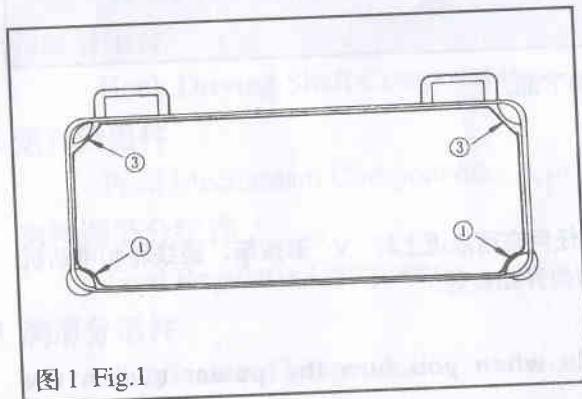
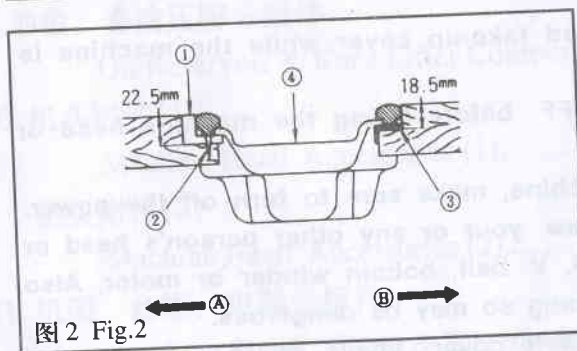
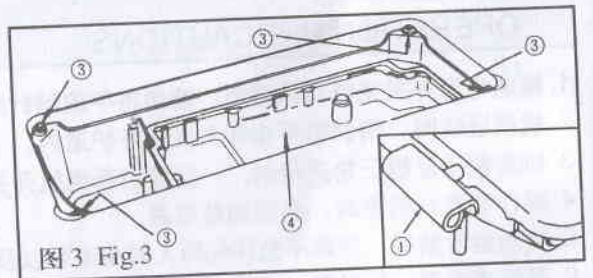
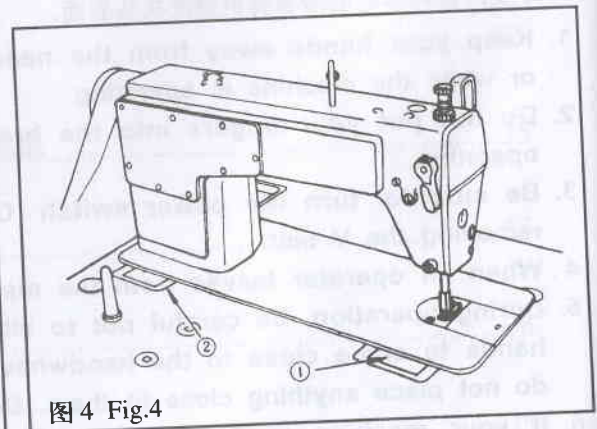

图 1 Fig.1
图 2 Fig.2
图 3 Fig.3
图 4 Fig.4
1. 机器的安装(图 1、图 2、图 3、图 4)
1. INSTALLATION (Fig.1, Fig.2, Fig.3, Fig.4)
- 2) 如图所示, 将两只油盘支座①用油盘座钉②固定在 A 一边 (朝操作者一边), 将两只油盘座垫③用油盘座钉②固定在 B 一边 (用机头连接钩接合一边), 最后把油盘④放在其上。(图 1、图 2)
- 3) 将机头连接钩①放入底板孔内, 与台板的机头连接钩座②相嵌合, 再将机头放到四只角的机头座垫③上。(图 3、图 4)
- 2) Fix two rubber seats ① on side A (operator's side) using nails ② as illustrated above. Fix two cushion seats ③ on side B (hinged side) using nails ②. Then place oil pan ④ on the fixed seats. (Fig.1, Fig.2)
- 3) Fit hinge ① into the opening in the machine bed, and fit the machine head to table rubber hinge ② before placing the machine head on cushions ③ on the four corners. (Fig.3, Fig.4)